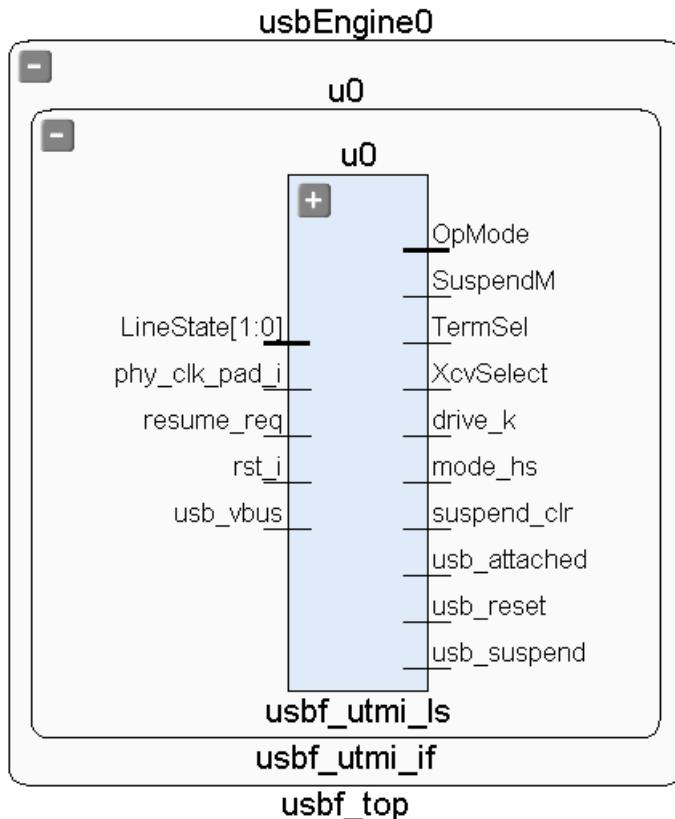

Figure 4-49: Viewing Hierarchy in the Schematic
The Schematic view displays the selected logic instances or nets. If only one instance is selected, a schematic symbol for that module is displayed as shown in Figure 4-49, page 154.
- **Expand all logic inside selected instance** — Expands a hierarchical module from the symbol view to the logic view. Hierarchical modules can also be expanded directly from the schematic by clicking on the '+' icon on the schematic symbol, as shown in as shown in Figure 4-49.
- **Collapse all logic inside selected instance** — Collapses a hierarchical module from the logic view to the symbol view. An expanded hierarchical block can also be collapsed directly from the schematic by clicking on the '-' icon on the hierarchical block, as shown in Figure 4-49.
- **Toggle autohide pins for selected instance** — Toggle the pin display on hierarchical modules. Higher levels of the hierarchy display as concentric rectangles without pins, when a Schematic view is generated, as shown in Figure 4-49. In most cases, the lack of pins makes the Schematic view more readable, however, you can display the pins for selected instances as needed.